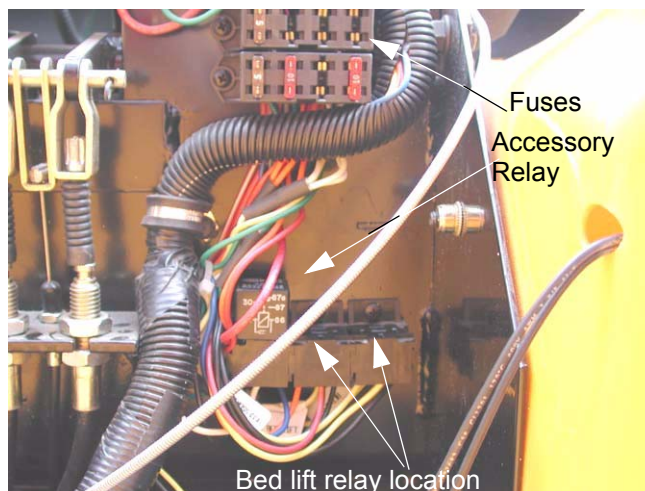

Figure 1.3
- 1.3. Vehicles equipped with the wiring harness that is subject to this occurrence are readily identifiable by the location of the fuse box, relays and voltage regulator-rectifier. The fuse box is mounted under the hood in a vertical position on driver's side of the firewall. Directly beneath it are molded plugs for three relays. The regulator-rectifier is located under the hood on the passenger's side firewall, directly above the battery. See Figure 1.3.